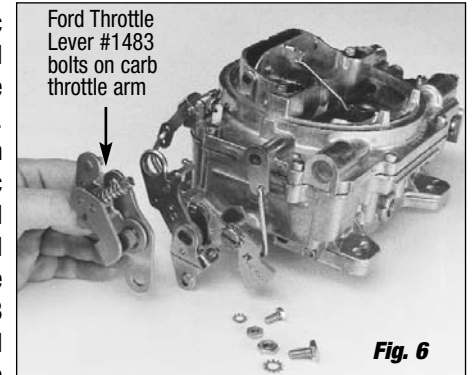

Fig. 6
- Chrysler vehicles with automatic transmission will require Throttle Lever Kit #1481. Ford vehicles with a u t o m a t i c transmission and cable linkage will require Throttle Lever Kit #1483 (**See Fig. 6**) and Throttle Cable Plate Kit #1490 (for 289-302), #1491 (for 351-W), #1493 (for 351-C & 351-M/400), or #1495 (for 429/460).